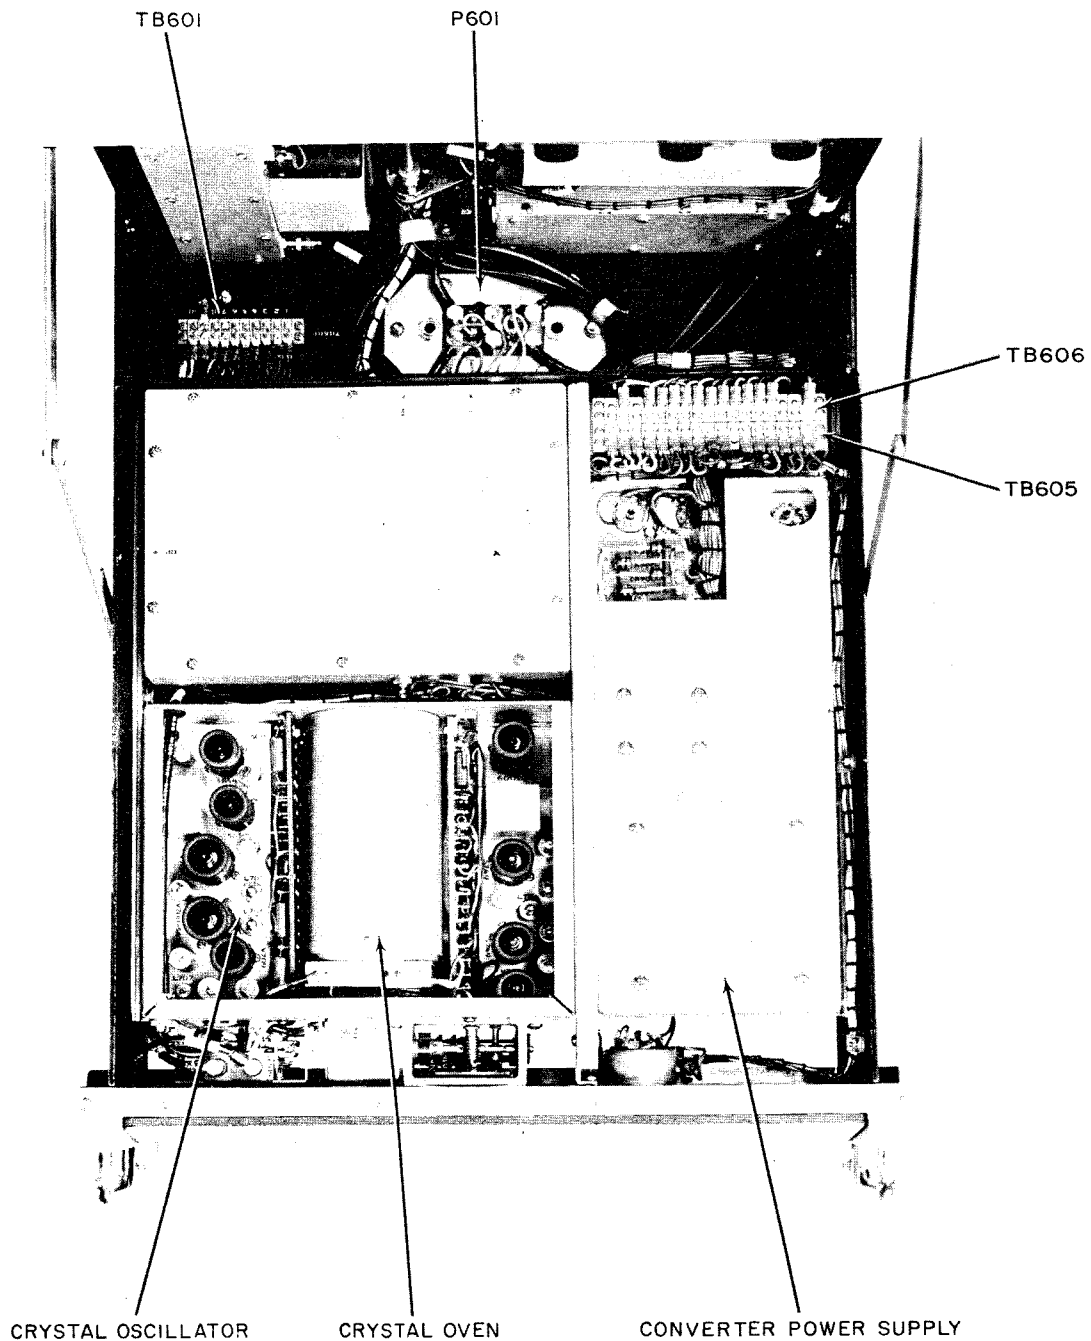

Figure 6-5. Converter Drawer, Upper Deck, Bottom View
(1) Pull out converter drawer and lock it in place. Tilt the upper deck 70 degrees to expose the bottom of the upper deck and the synthesizer subassembly (figure 6-5).
(2) Unsolder coded leads from feed-through capacitors C803, C815, C830, and C832.
(3) Lower the upper deck to its horizontal position against the top of the lower deck. This exposes the top of the upper deck for removal of coax cables and for loosening of Dzus fasteners of the subassembly.
(4) Remove the following plugs from jacks of the synthesizer subassembly: P801 of coax cable W616 from jack J801; P804 of coax cable W623 from jack J804; P805 of coax cable W620 from jack J805; P811 of coax cable W619 from jack J811; and P815 of coax cable W617 from jack J815.
(5) Loosen captive Dzus fasteners, remove bracket from apron of converter power supply, and re-
noted in figure 6-5. Code leads for future reinstallation.